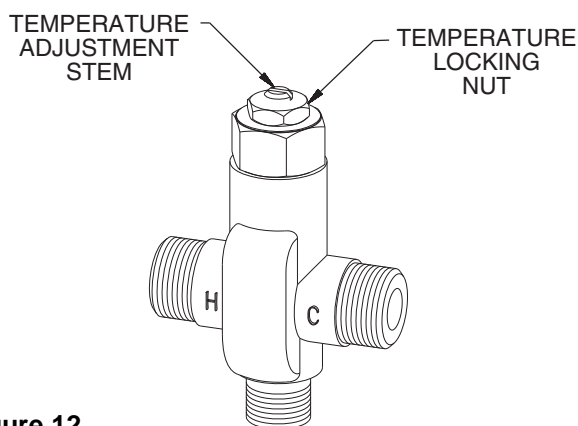

Figure 12
- Using a blade screwdriver, turn the adjustment stem **counterclockwise** to **increase** the temperature or **clockwise** to **decrease** the temperature (Figure 12).